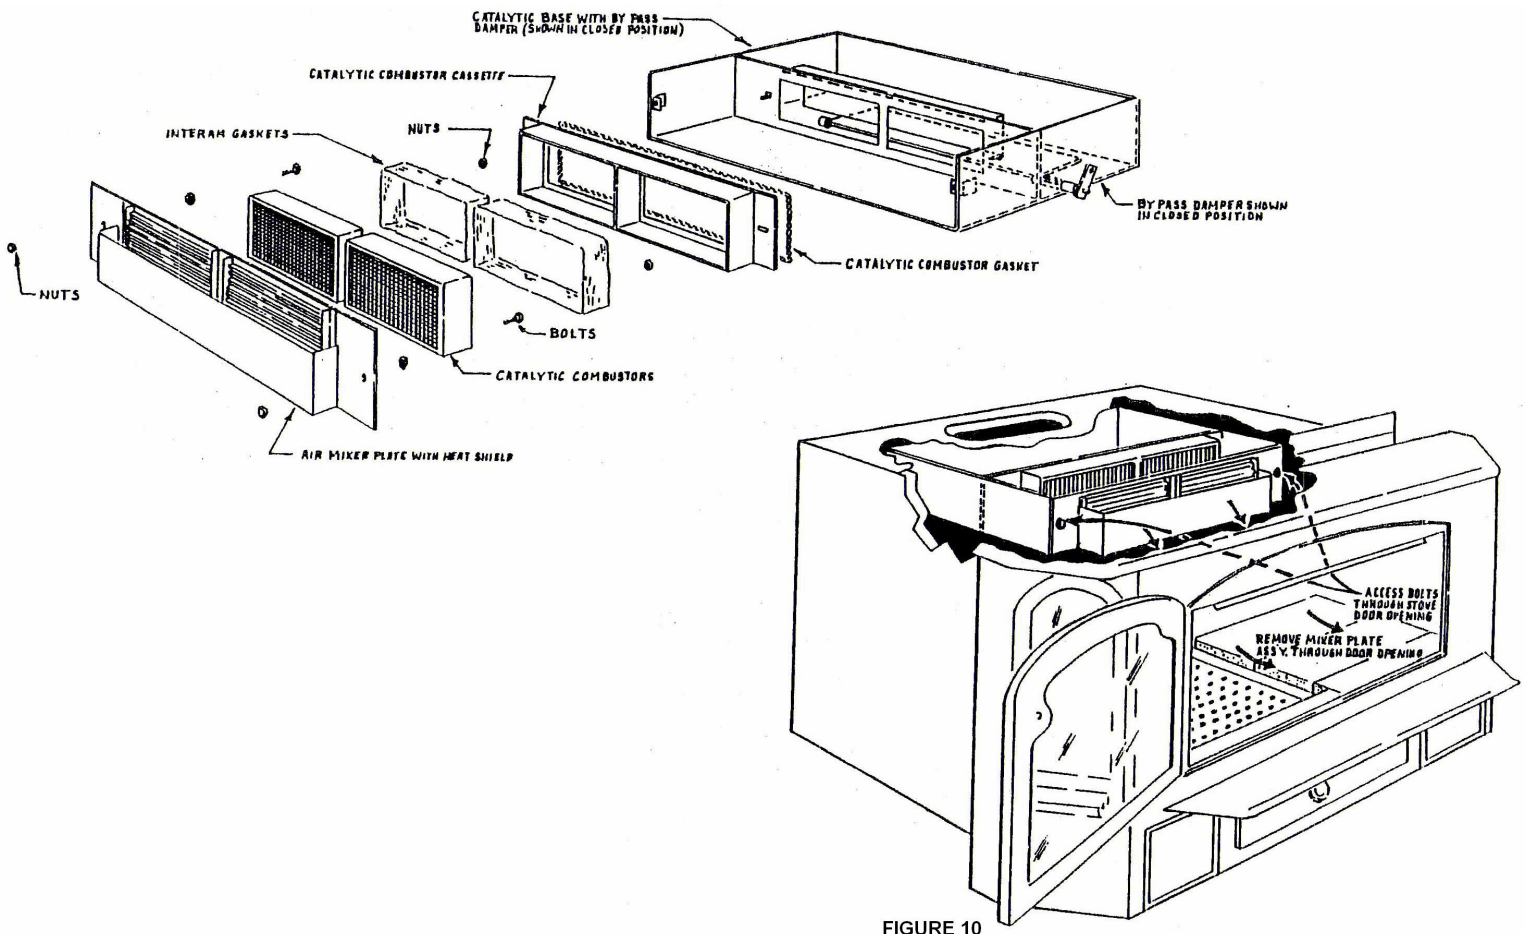

FIGURE 10
1. Combustor assembly is accessed through stove door opening. Using 3/8" socket, remove the two nuts (one on each side) that holds heat shield and mixer plates. Remove assembly through stove door. (See figure 10)